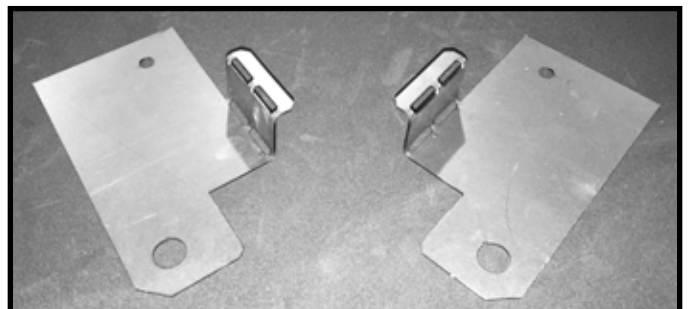
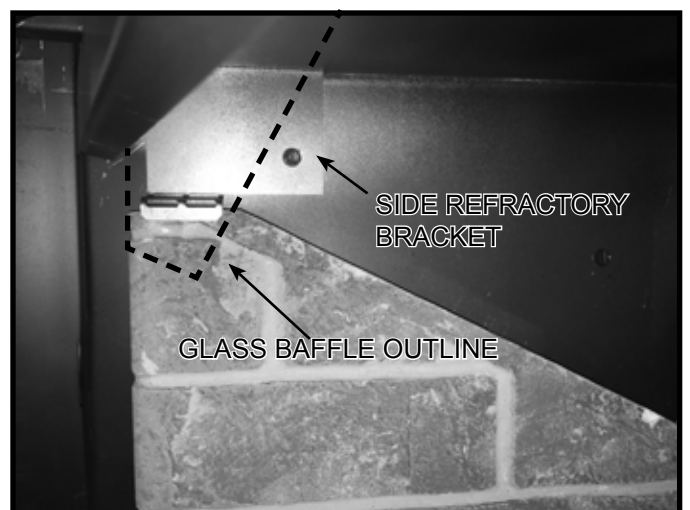

Figure 7. Side Refractory Brackets Bent
Figure 8. Side Refractory Bracket Installed (Left Side Shown)
10. Locate and bend side refractory brackets as shown in Figure 7. Install each bracket with one self-tapping screw as shown in Figure 8. An outline of the factory-installed glass baffle is shown for reference. Slide the bracket forward until it contacts the firebox front lip.